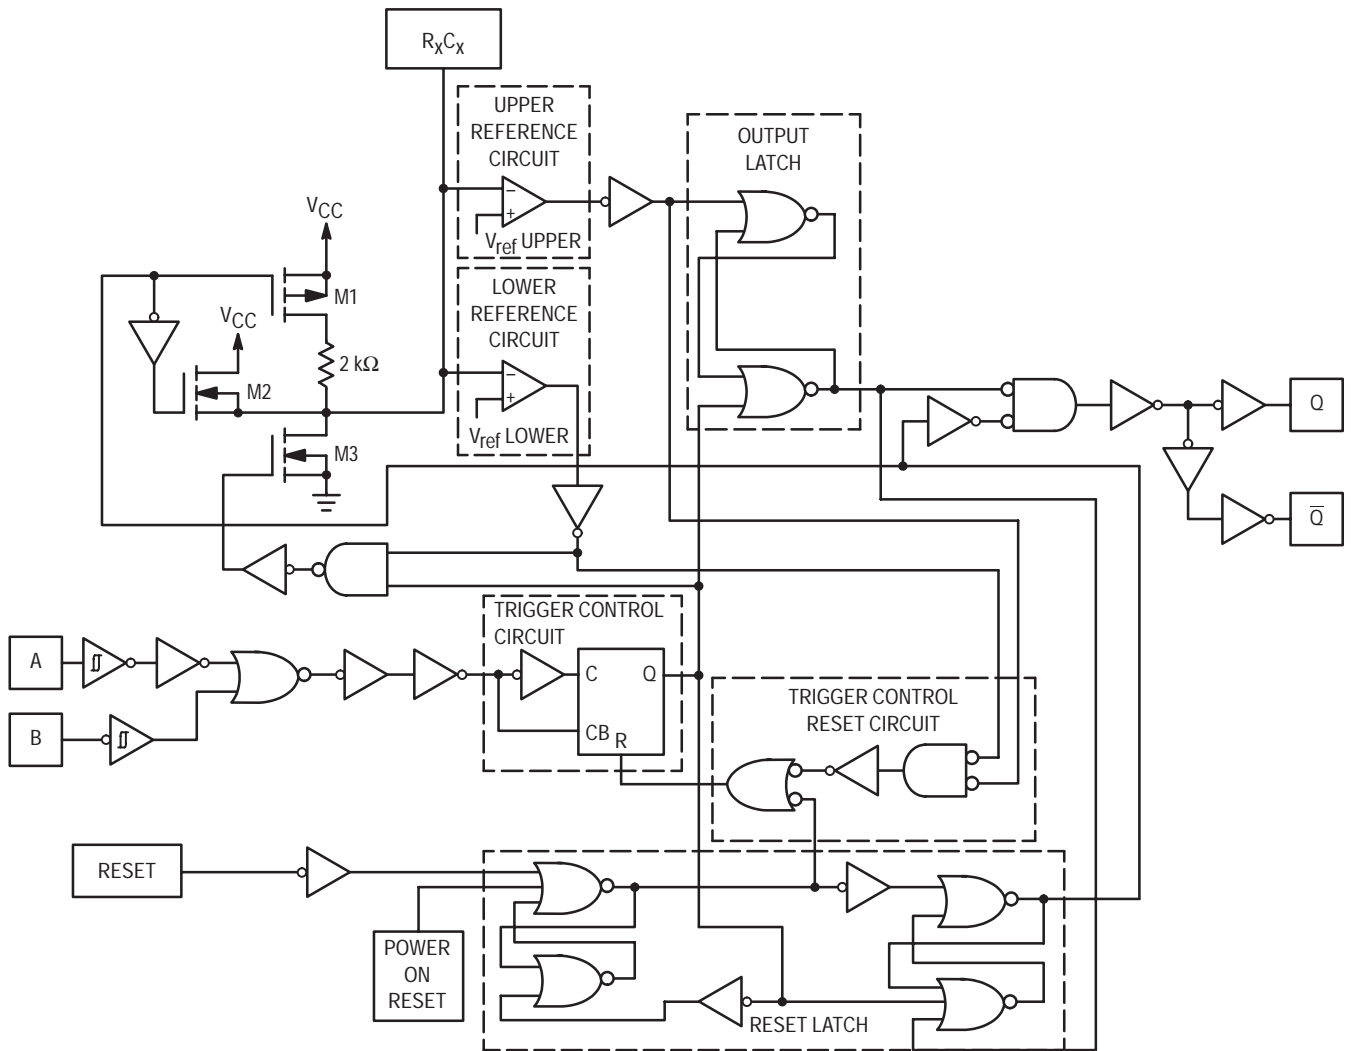

Figure 2. MC74HC4538A Logic Circuit Detail
- 1) Time to discharge $R_X C_X$ from V_{CC} to ($V_{ref\ lower} = 1/3 V_{CC}$) $T_{discharge}$. This discharge occurs quickly because external resistance, R_X , does not have any effect on the R_C time constant. The resistance in the discharge path, as seen in Figure 2, is the on-resistance of M3, and the interconnect resistance. The interconnection resistance is dependent on the polysilicon sheet resistance, the metal sheet